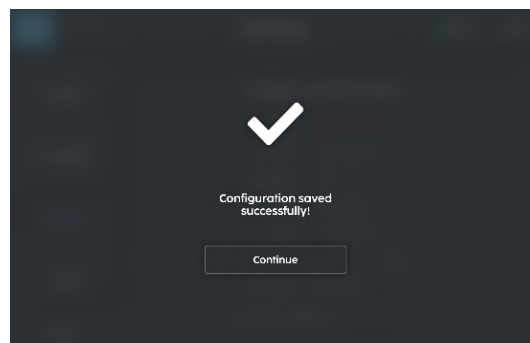

FIGURE 7-9
- Make the necessary configuration changes and “Save” the configuration (**Fig. 7-9**).